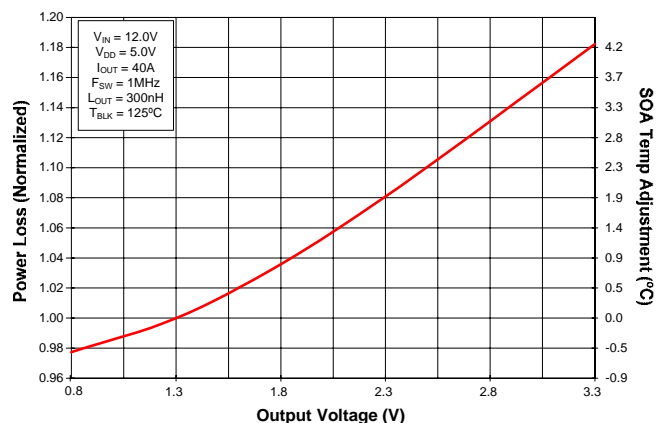

Figure 4 Normalized Power Loss vs. Output Voltage
| (Figure 4) | Normalized power loss for output voltage $\approx 1.0$    |
- (Figure 4) SOA temperature adjustment for output voltage  $\approx 0.0^{\circ}\text{C}$